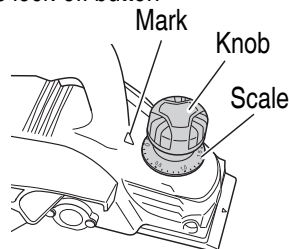

Fig. 5
(1) Turn the knob in the direction indicated by the arrow in **Fig. 5** (clockwise), until the triangular mark is aligned with the desired cutting depth on the scale. The scale unit is graduated in millimeters.
(2) The cutting depth can be adjusted within a range of 0 – 2.6 mm.